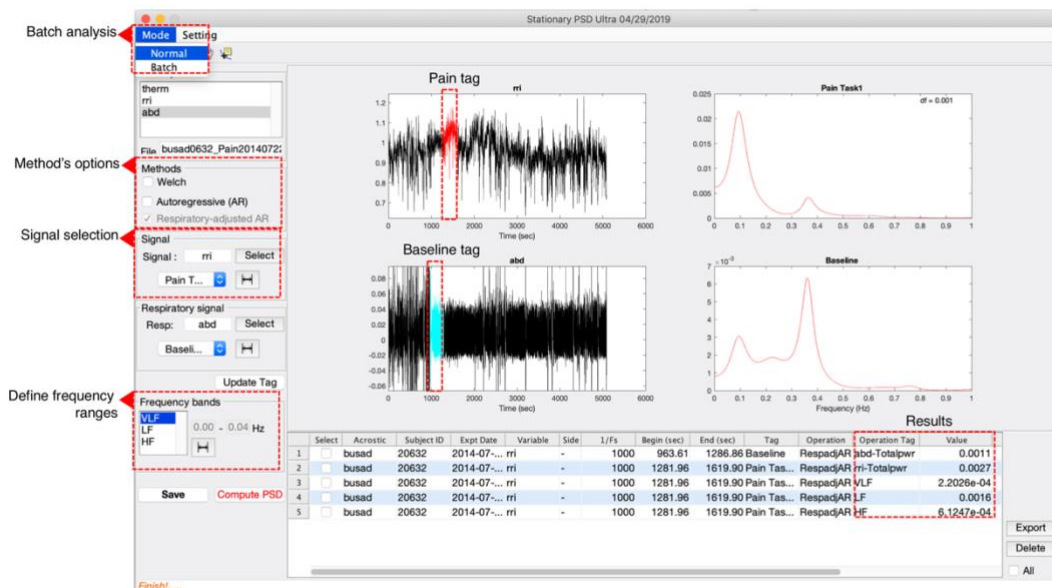
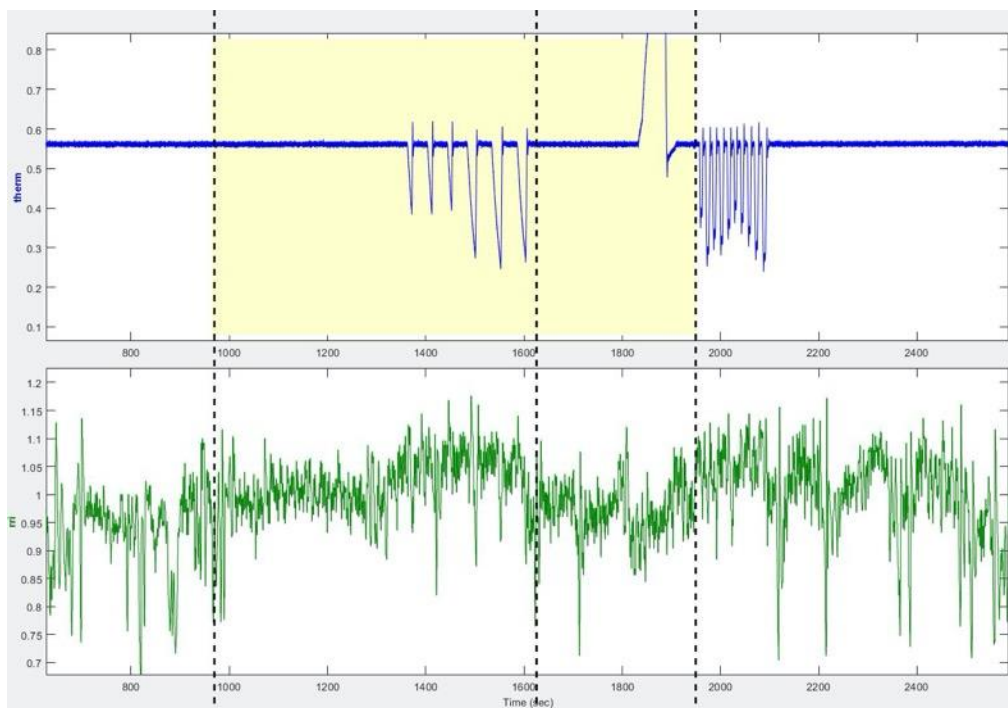

Figure 3-4. Sample run on Stationary PSD using respiratory-adjusted method.
Figure 4-3. Define a tag for the Time-varying PSD module, (1st panel) heat stimulus, (2nd panel) rri.
We now present an example in which heart rate variability analysis is applied to the RRI signal. From the Analysis menu of the Data Browser main interface, “Stationary PSD” is selected, which opens the window displayed in Fig 3-4. ‘rri’ is selected as the signal to be investigated, using the input-adjusted Autoregressive (AR) PSD estimation method. We first select the baseline duration for the respiratory signal, ‘abd’. Then, an estimate of the heart rate variability is corrected using the selected respiratory pattern. The analysis module plots the ‘rri’ signal and corresponding PSD after the correction. The very low-, low-, high-frequency and total powers are reported in the table, which can be exported as a CSV file. As mentioned in the Computational Methods section, the frequency ranges for power calculation can also be manually defined by user as needed.
In this section, we show how to use the Time-varying PSD module. The Time-varying PSD module plots power spectrum over time, which enables users to observe the changes in low- and high- frequency components affected by changes in external conditions. As an example, we re-analyzed the heart rate variability of the same subject presented in Fig 3-4. A new tag has been defined to cover baseline, pain task and recovery period (Fig 4-3).